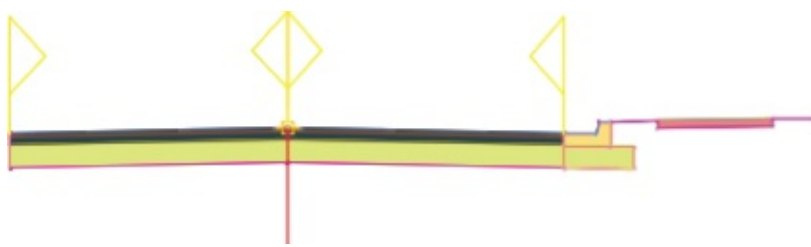

Figure 8.13 BasicSidewalk : subassembly placed on the UrbanCurbGutterGeneral subassembly
21. At the `Select marker point within assembly or [Insert Replace Detached]:` prompt, select the circular marker on the UrbanCurbGutterGeneral subassembly that represents the top rear of the curb to attach the UrbanSidewalk subassembly (see Figure 8.13).